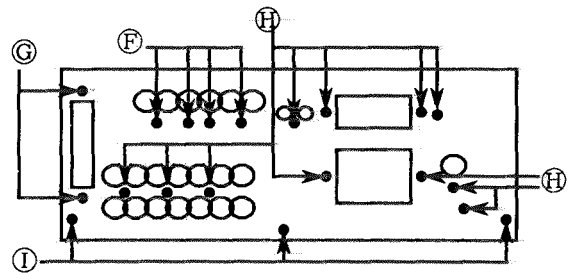

FIG.3 Rear side
2. Remove 20 screws (F),(G),(H) and (I). (FIG.3)
2. Remove 2 screws (G).(FIG.3)
5. Remove 3 screws (I).(FIG.3)